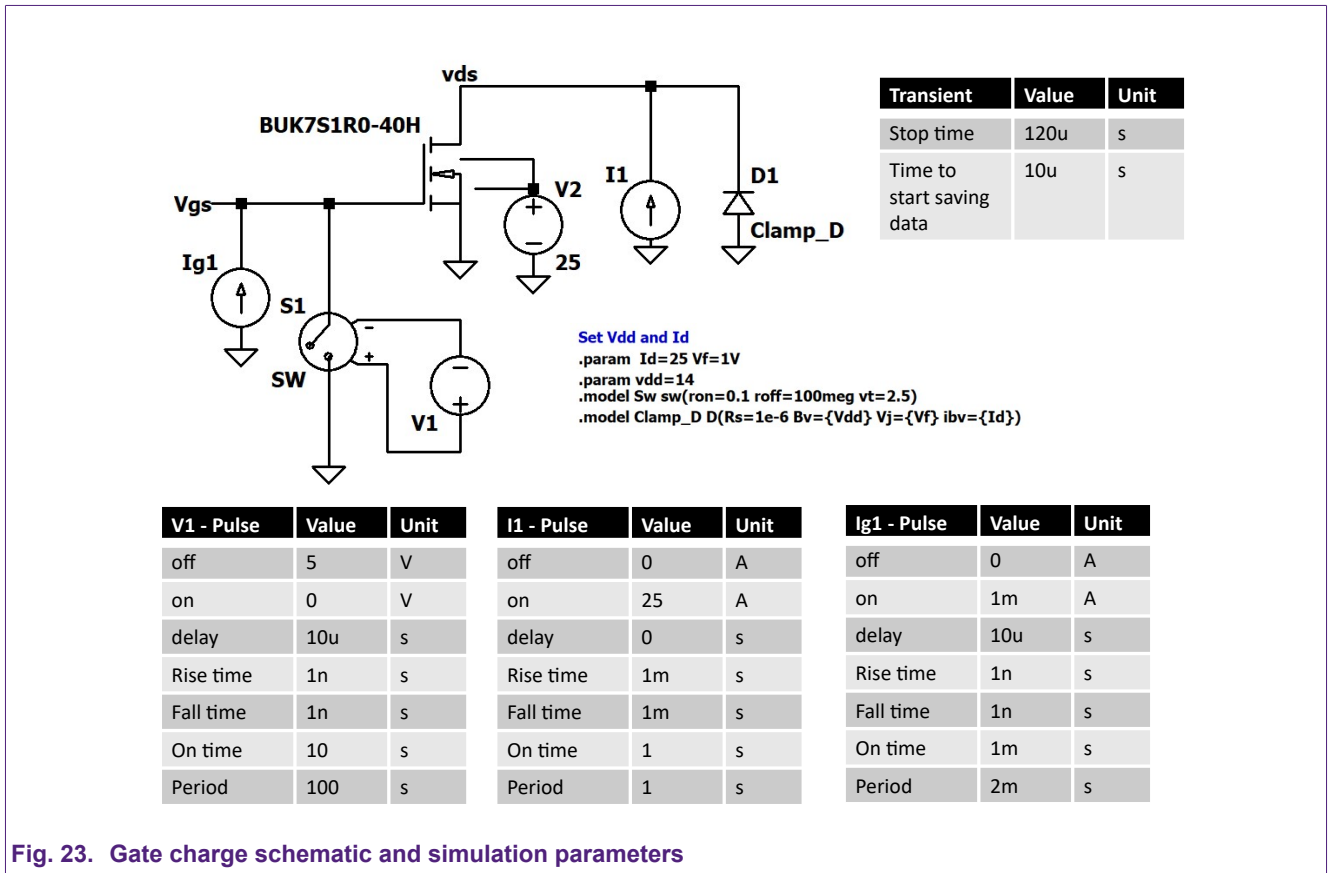
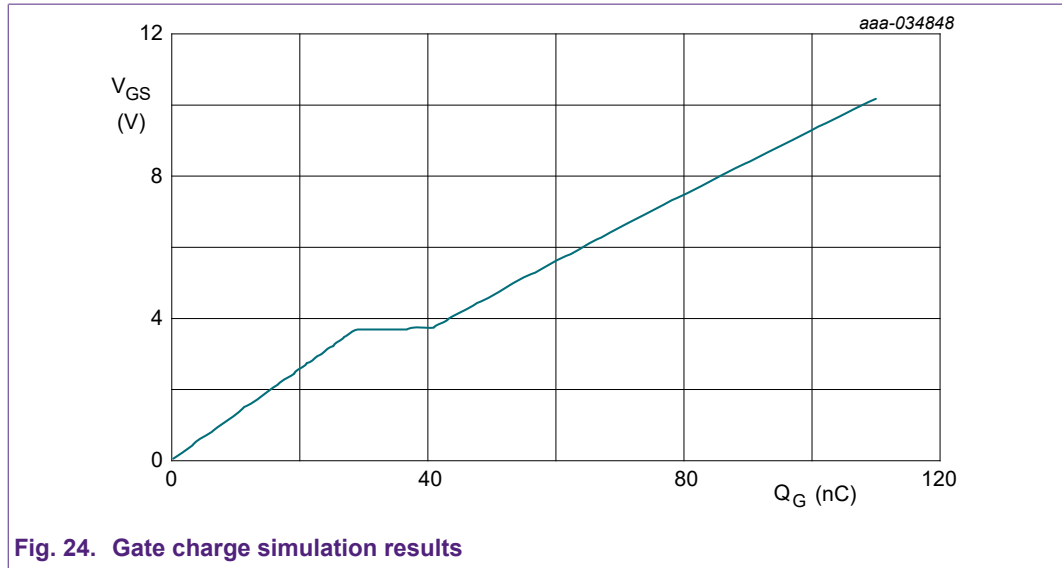

Fig. 23. Gate charge schematic and simulation parameters
Fig. 24. Gate charge simulation results
Fig. 23 shows the gate charge set-up and by probing the  $V_{gs}$  node one can see the  $V_{gs}$  charging with respect to time. To determine the gate charge, use the relationship in Equation (1), the gate current  $I_G$  is determined by the settings of  $I_{g1}$  in the schematic set-up. The result of this is shown in Fig. 24.